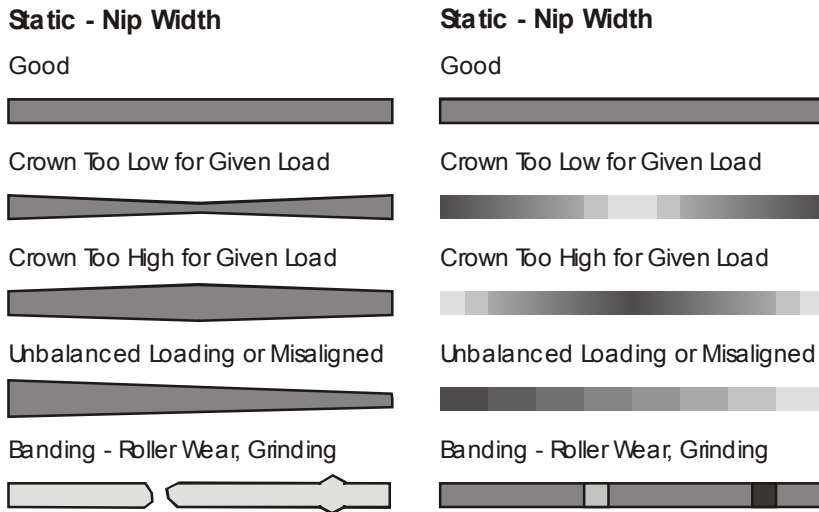

Figure 8 – Crown Errors
An initial crown is usually cut to a value either determined by long and studied experience or by calculation (1). The calculation is simply the sum of the bending deflections of both rollers caused by gravity and the loading system. In either case, errors of omission or commission can make the crown inappropriate for the loading as seen in Figure 8. One can correct the crown by two crude but simple approximation techniques. The first is to alter the loading until the nip impression is flat and uniform. This presumes that the equipment is capable of reaching those loads, but does not require saleable product. The corrected crown would be the present crown multiplied by the load ratio. Specifically,